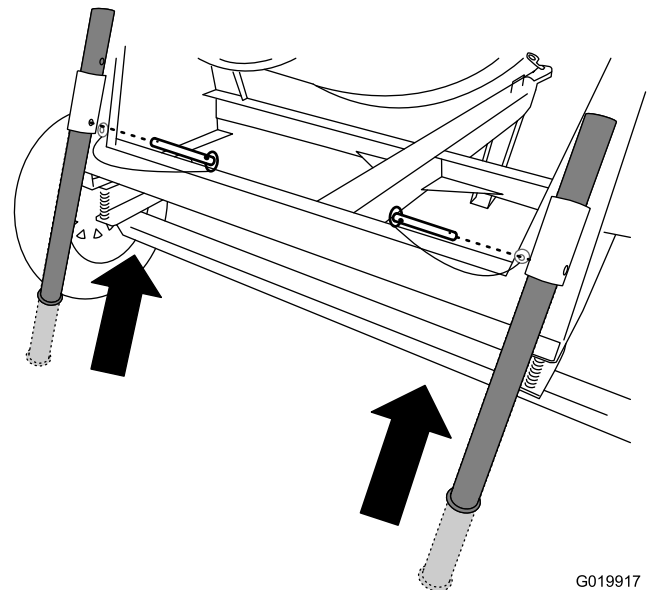

Figure 19
2. Pull the clevis pin out from 1 of the rear stabilizer legs and the bracket (Figure 19).
3. Slide the stabilizer leg up in the bracket and align the pin hole of the bracket with the lower hole in the stabilizer leg (Figure 19).
4. Push the clevis pin through the hole in the bracket and the stabilizer leg (Figure 19).